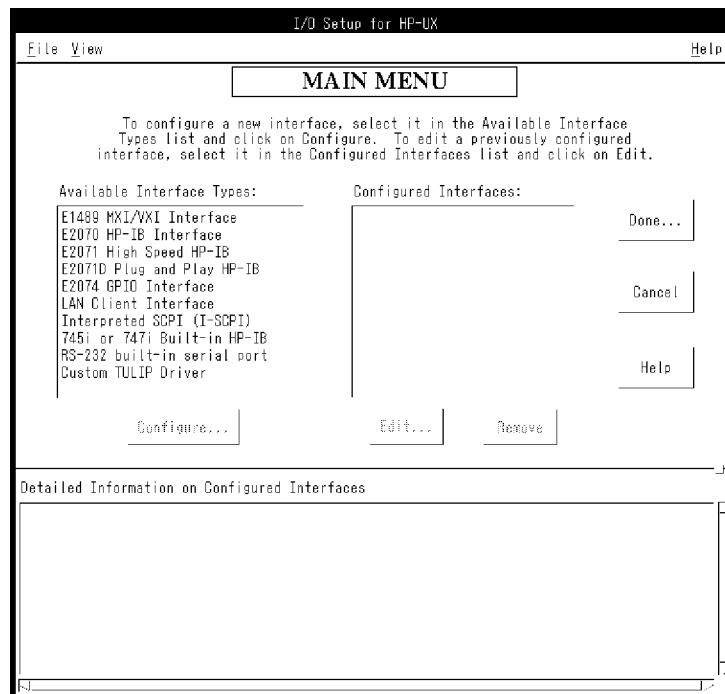

Figure 5-10. I/O Setup for HP-UX Window
1. Execute the `/opt/sicl/bin/iosetup` command. The I/O setup for HP-UX window appears as shown in Figure 5-10.